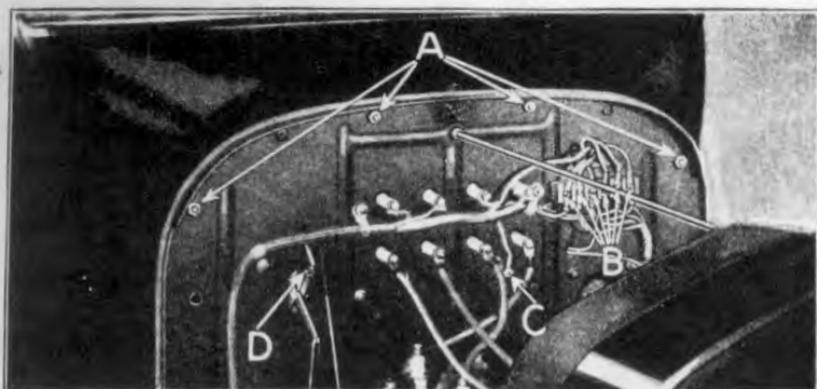

Fig. 13
- (b) Run off nuts on the four dash to body bolts, (See "A" Fig. 13), and withdraw bolts.